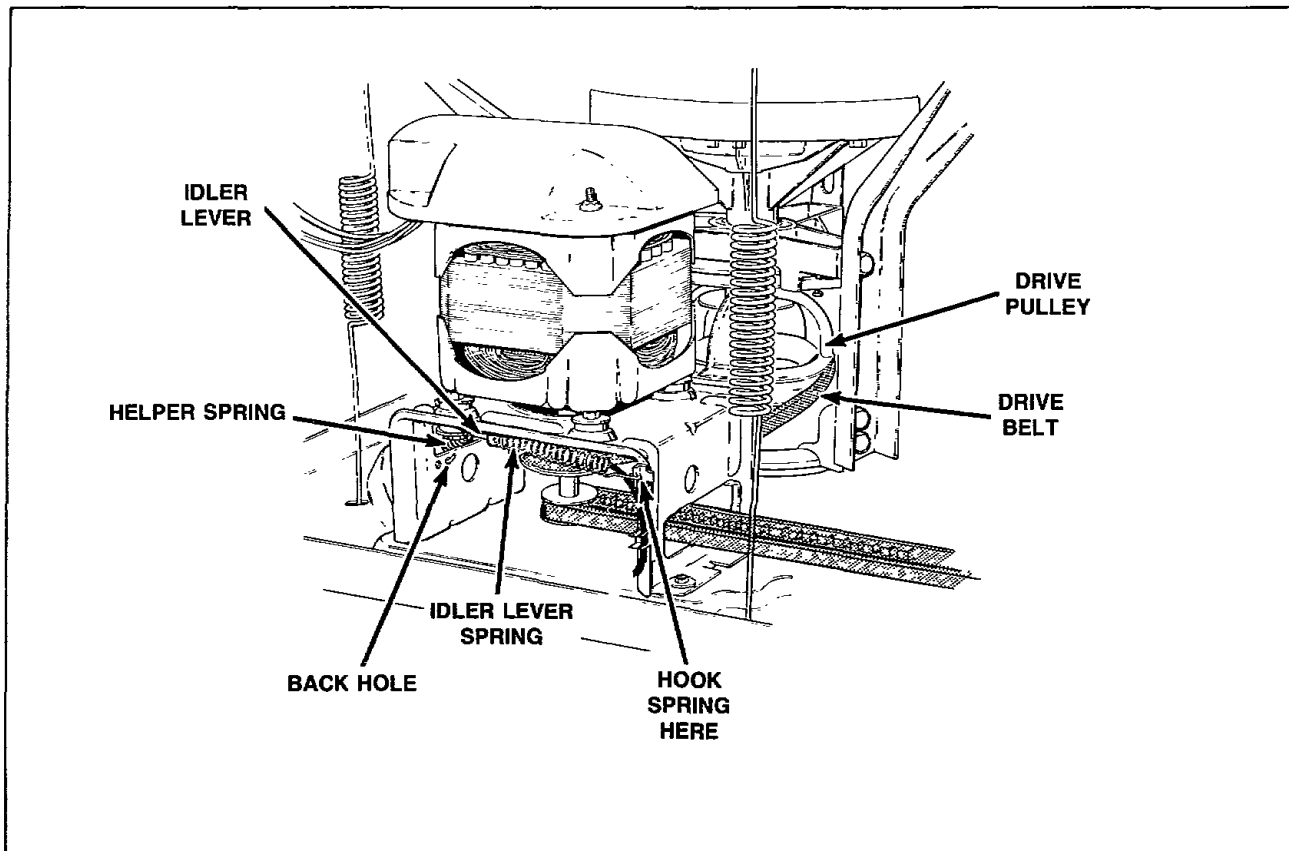

Figure 57
- g. Reconnect idler spring to clip on motor mounting bracket, and helper spring into the back hole in the mounting bracket, Figure 57.